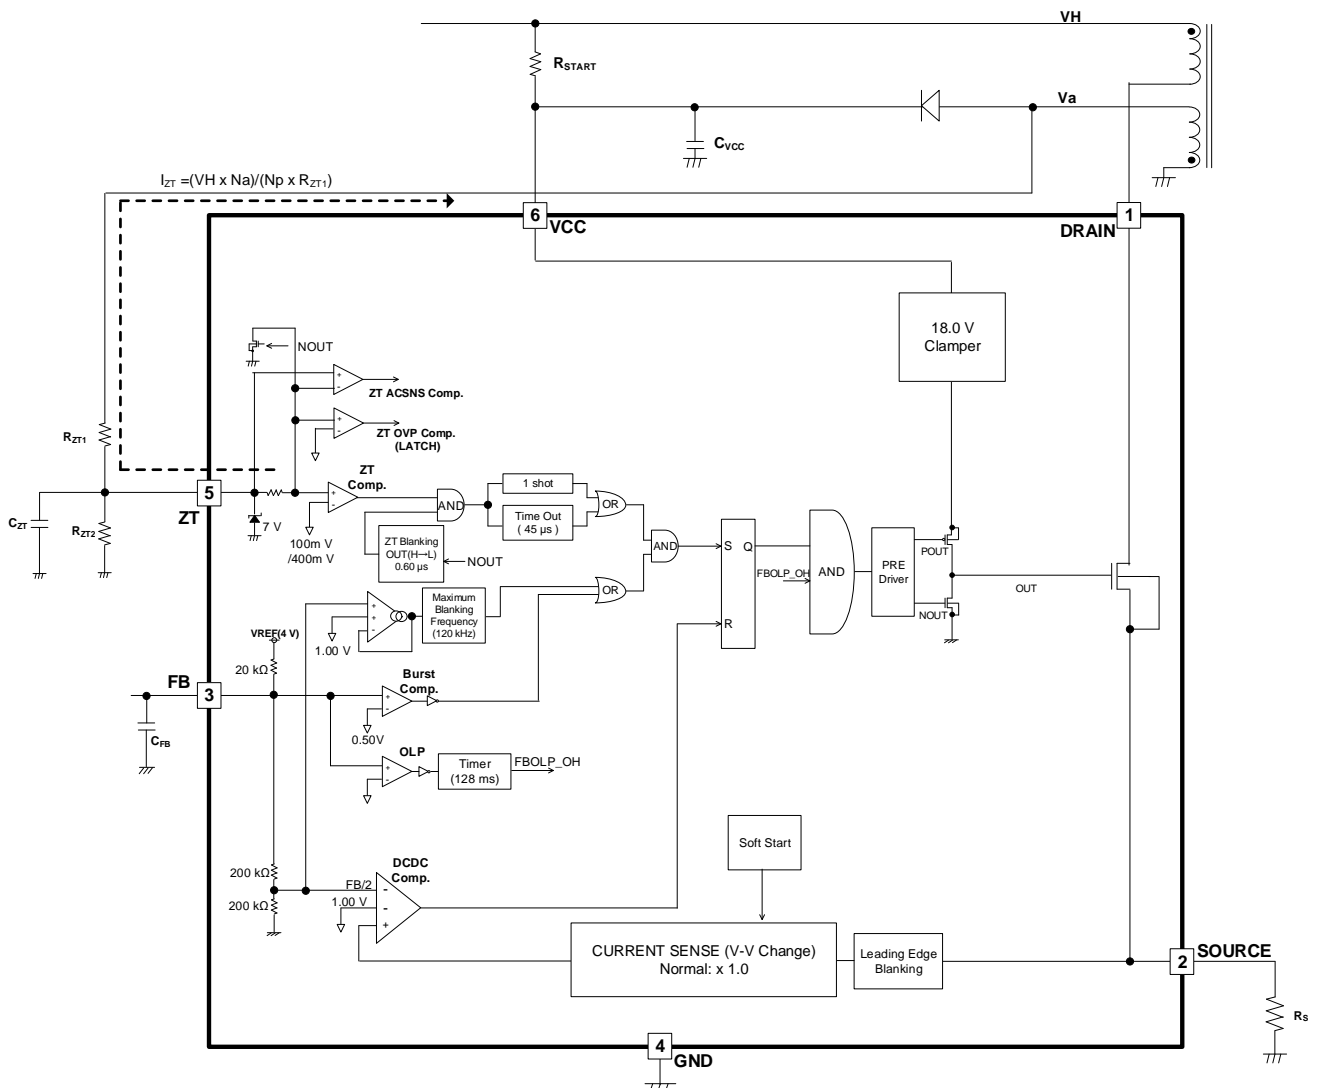
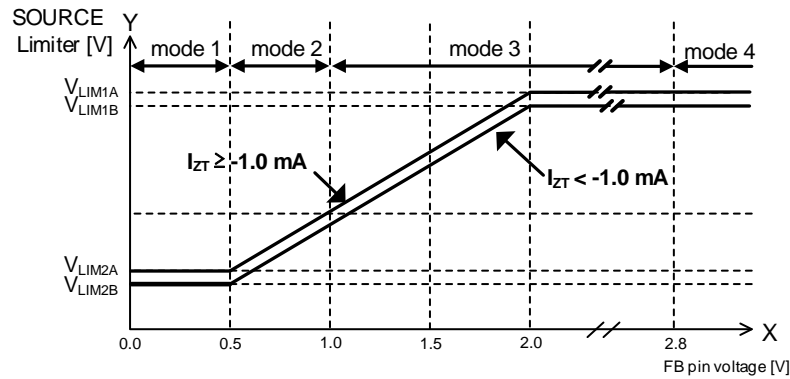
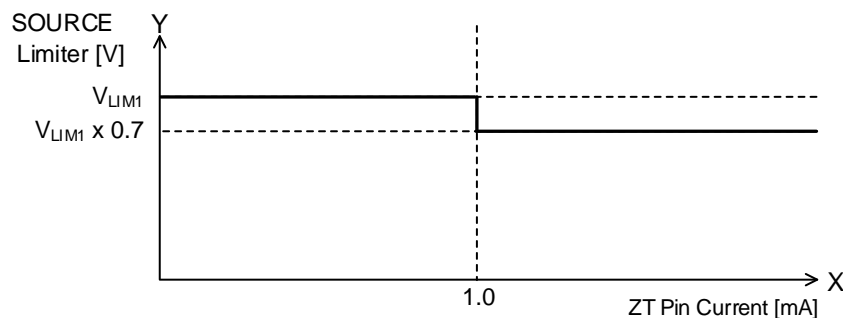
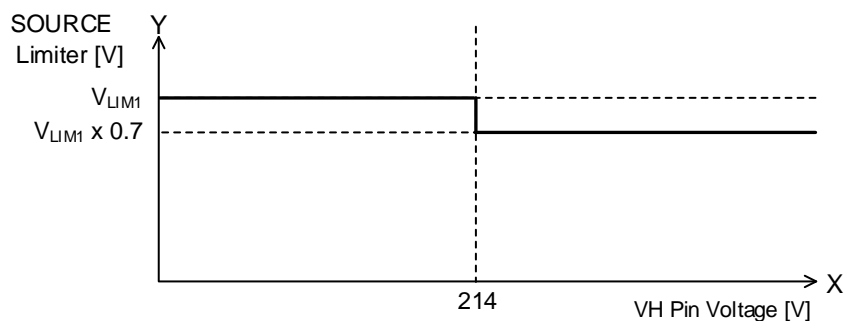

Figure 5. Block Diagram of SOURCE Switching Current
Figure 6. SOURCE Switching: SOURCE Limiter vs FB Pin Voltage
Figure 7. SOURCE Switching: SOURCE Limiter vs ZT Pin Current
Figure 8. Example of SOURCE Switching: SOURCE Limiter vs VH Pin Voltage
Detection and switch are performed by monitoring the ZT inflow current. When the MOSFET is turned ON, Va becomes a negative voltage dependent on the input voltage (VH). The ZT pin is clamped to nearly 0 V in the IC. The formula used to calculate this is shown below. A block diagram is shown in Figure 5. Also, graphs are shown in Figure 6, Figure 7 and Figure 8.